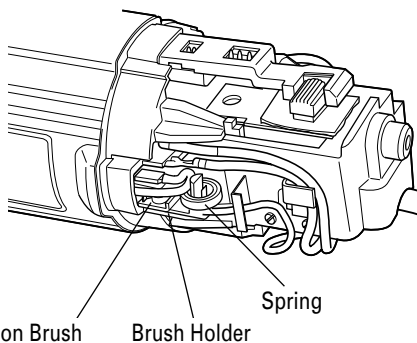

Fig. 7
4. Replacing carbon brushes (Fig. 7):